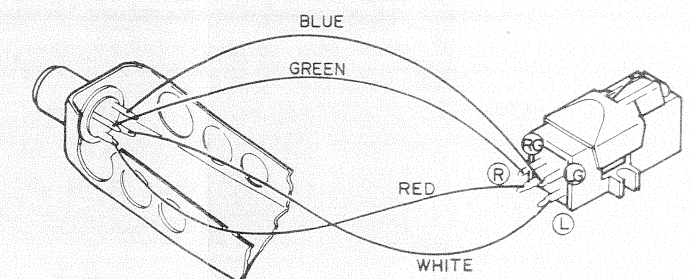

Figure 13
- Then, the cartridge can be removed from the headshell as shown in figure 13.